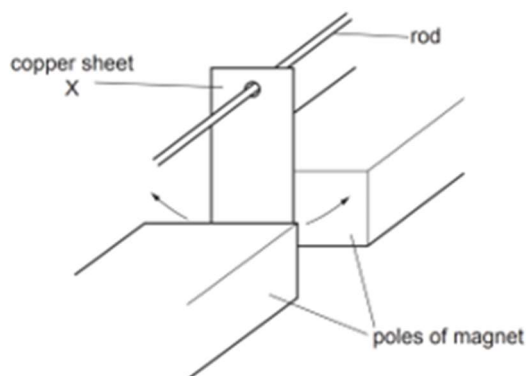

Fig. 6.2
- (b) A thin copper sheet X is supported on a rigid rod so that it hangs between the poles of a magnet as shown in Fig. 6.2.